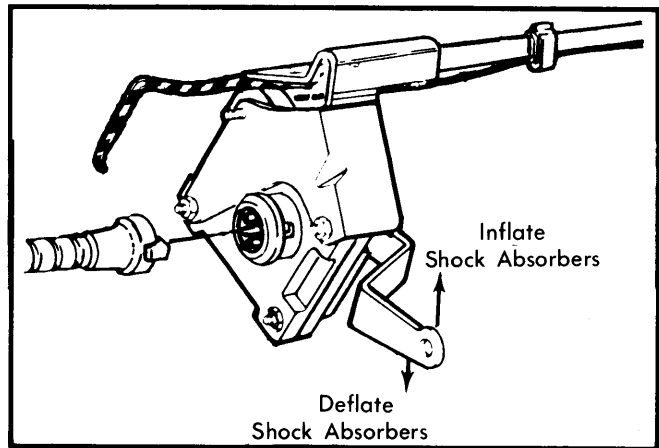

Fig. 2 Height Sensor Test
- 4) Disconnect link from height sensor arm. See Fig. 2.